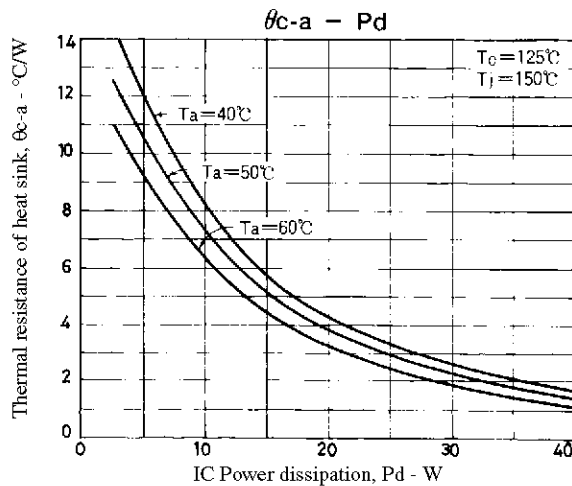

Figure 3. STK4028V θc-a – Pd
Figure 3 shows the relation between Pd and θc-a given from (1) and (3) with Ta as a parameter.
The thermal resistance of a heat sink is obtained from Figure 3.